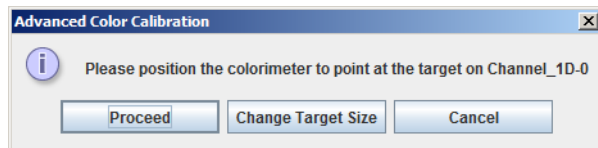

Figure 4-36 Advanced Color Calibration - Proceed with Calibration
9. When you have the colorimeter attached and powered on, click **Calibrate** to start the calibration process. A target appears on your screen, and you are prompted to point the colorimeter at it (Figure 4-36).